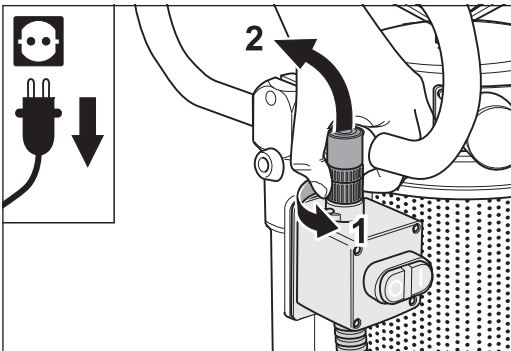

Fig. 87 Loosen the ring nut (1) and remove the cable plug from the switch (2).
- 4 Loosen the cable plug of the sensor on the on/off switch by turning the ring nut **counterclockwise** (fig. 87. 1) and pull the cable plug off (fig. 87. 2).